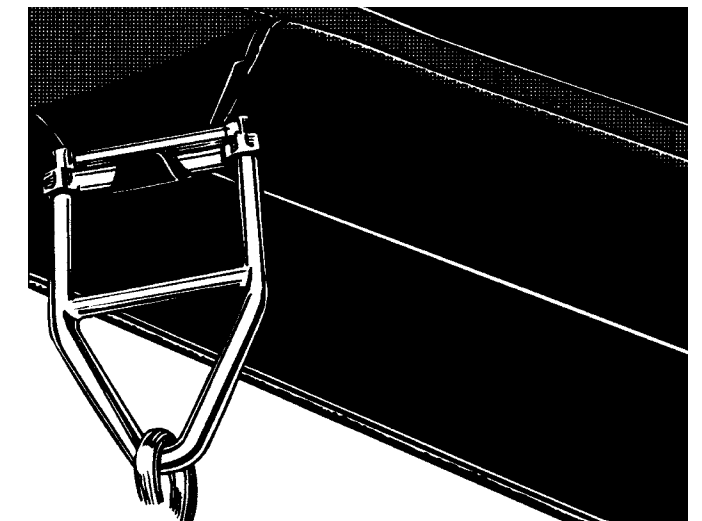

Fig. 5-12
17. Turn the belt end back down and remove the cover and top ply (Fig. 5-12). This is a very difficult pull. If a winch or equivalent is not available, use a come-along and very carefully cut the inside gum with a ply knife.